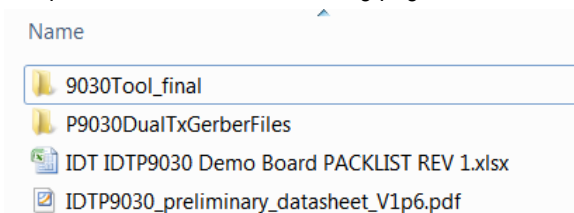

Figure 19. File folder structure on the CDROM.
4. Next, install the Wireless Power Demo Windows GUI software by executing the Setup.exe file in the folder "9036Tool_final" (Figure 19).